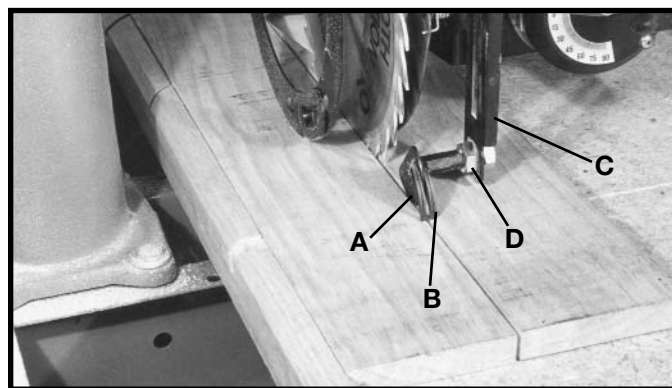

Fig. 73
During ripping operations, the splitter (A) Fig. 73, must ride in the saw kerf and the anti-kickback fingers (B) should be touching the workpiece to prevent kickback.
2. Start a piece of material through the saw as shown in Fig. 73.
4. Adjust the arm (C) Fig. 73, so that it is vertical and the splitter (A) is in the saw kerf.
5. If the splitter (A) Fig. 73, does not line up with the saw kerf, loosen hex nuts (D), and position splitter (A) into saw kerf as shown. Then tighten hex nuts (D) against arm (C). The straight side of the splitter should be toward the blade as shown in Fig. 73, and the anti-kickback fingers should rest on the workpiece as shown. **NOTE: The clamp knob for arm (C) must be tight. Move arm (C) front to back while tightening clamp knob with other hand to be sure clamp is firmly seated and tight.**
6. Pull backward on the workpiece to determine if the anti-kickback fingers bite into the material and prevent further backward movement. If necessary, readjust height of arm (C) Fig. 73.